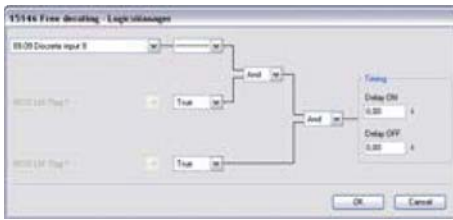

Fig. 226: LogicsManager function "Free derating"
- Configure the LogicsManager function "Free derating" as shown in (Fig. 226) to enable derating of power if discrete input [DI 09] is energized.